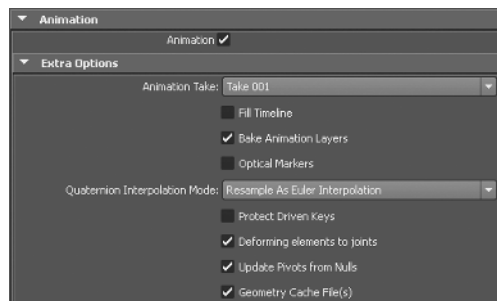

Figure 1.44
18. Under Include, change File Contents to Update Scene Elements. Make sure Animation is selected, and use the settings from Figure 1.44.